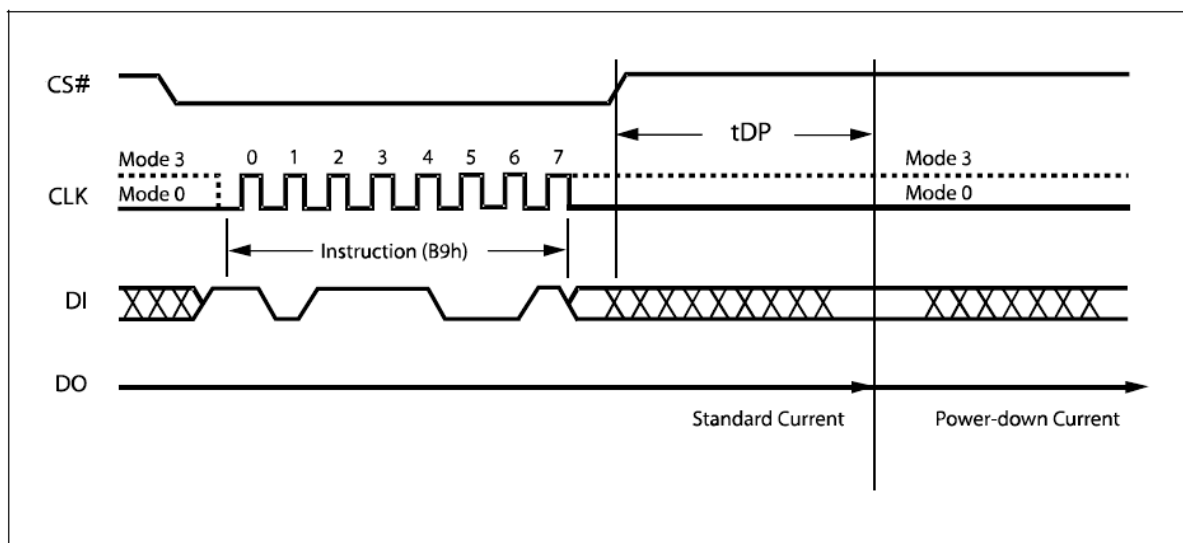

Figure 15. Deep Power-down Instruction Sequence Diagram
The instruction sequence is shown in Figure 15. Chip Select (CS#) must be driven High after the eighth bit of the instruction code has been latched in, otherwise the Deep Power-down (DP) instruction is not executed. As soon as Chip Select (CS#) is driven High, it requires a delay of t_{DP} before the supply current is reduced to I_{CC2} and the Deep Power-down mode is entered.